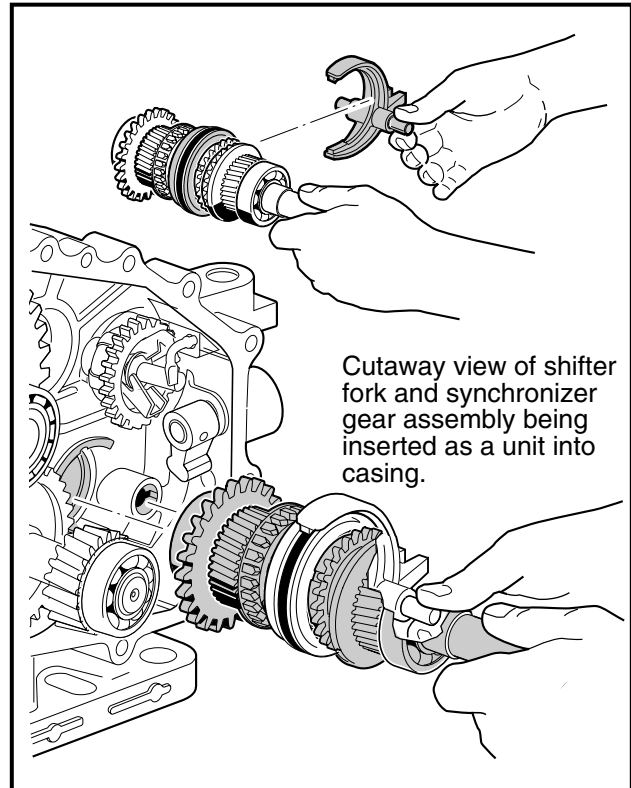

Figure 16b-86 Synchronizer Ring Gear
- 7.4. Position the shifter fork assembly on the synchronizer gear assembly as shown, and install them together, bearing end first, into the bore containing the oil guide (**Figure 16b-86, Page 16b-37**). Do not seat the assembly, but make sure the spur gear (43) is meshed with the governor gear (66) (**Figure 16b-50, Page 16b-23**), and the shifter lever (19) (**Figure 16b-42, Page 16b-19**) is positioned in the bracket on the shifter fork. **See also Figure 16b-87, Page 16b-38.**